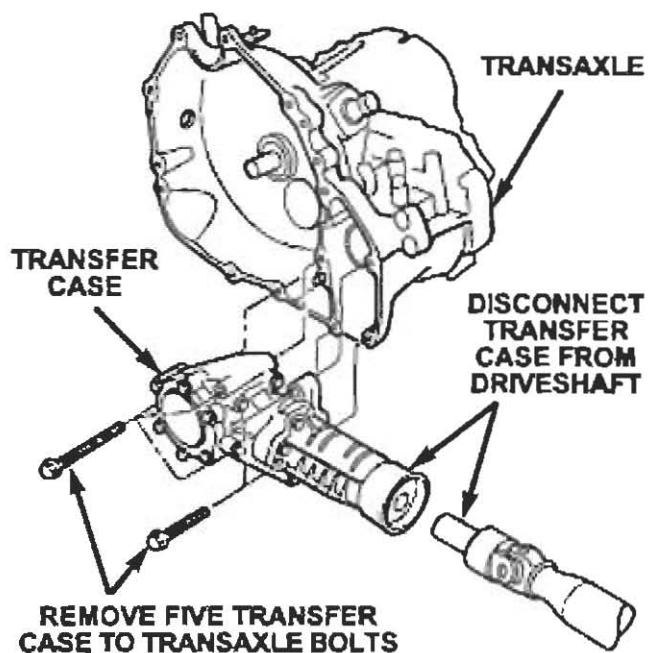

Figure 3
- Remove the five bolts that secure the transfer case to the transaxle (Figure 3).